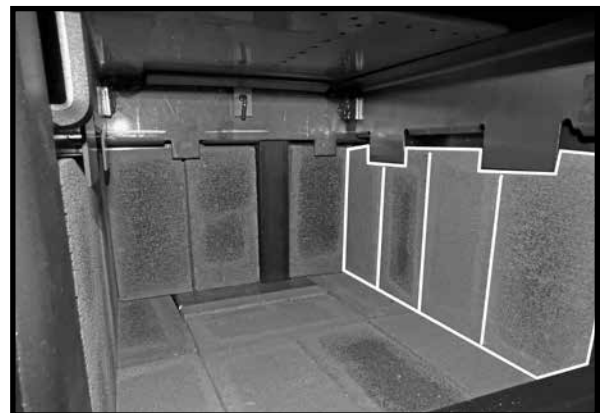

Figure 34: Right wall bricks in place.
3. Place four bricks in behind the right side wall tabs (Figure 34). Again, move the bricks toward the front. Note: Even though the far bricks on both side walls will fit completely behind the rear wall end bricks, do not do this as the resulting gaps in the side wall bricks at the front will be too large.